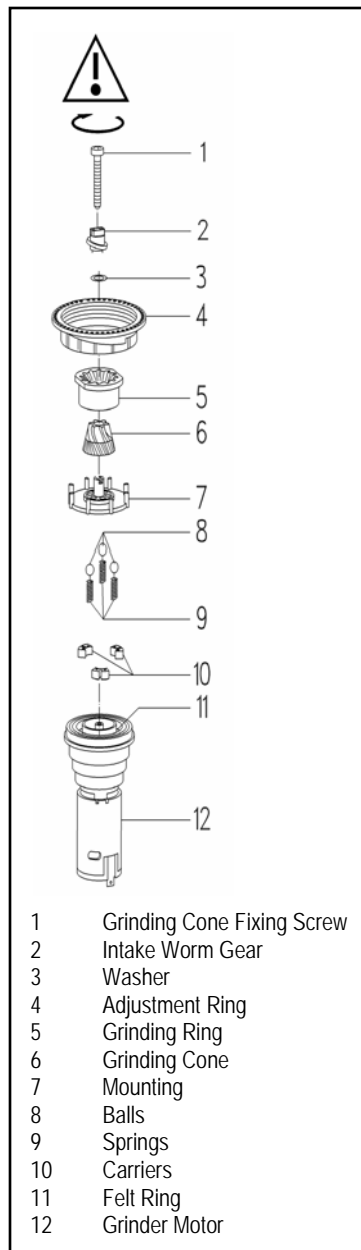

Figure 5-46: Grinder - Apart
12. Remove the grinding cone fixing screw (Figure 5-46, Item 1) by turning it clockwise.
13. Remove the intake worm gear (Figure 5-46, Item 2).
14. Remove the washer (Figure 5-46, Item 3).
When the Grinding Cone (Figure 5-46, Item 6) is removed, the balls (Figure 5-41, Item 8) may stick to it and then fall off.
Refer to Figure 5-46 – Grinder – Apart
Refer to Figure 5-46 – Grinder - Apart.